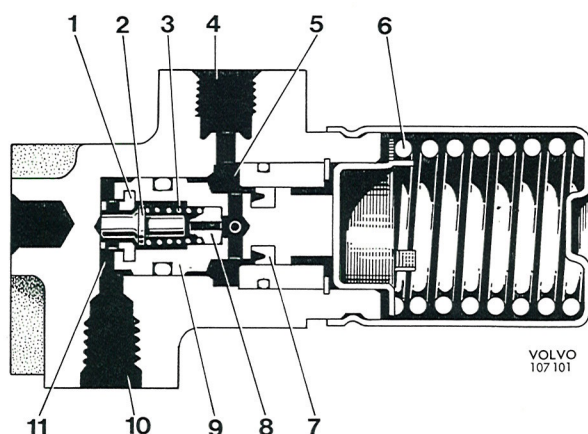
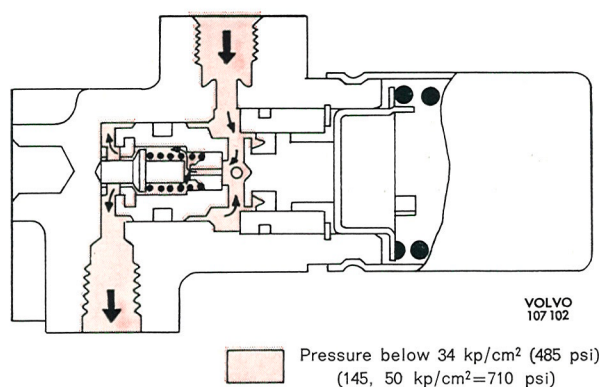

Fig. 5-40. Brake valve, construction
Fig. 5-41. Brake application
A brake valve is connected to each of the rear wheel brake lines, see Fig. 5-6. When the ingoing brake pressure exceeds $34 \text{ kp/cm}^2 = 485 \text{ psi}$ ($145, 50 \text{ kp/cm}^2 = 710 \text{ psi}$) a reduction takes place in the valve. The more powerful the pedal pressure, the greater the reduction and thereby the larger the difference between the hydraulic pressure in the front wheel and rear wheel cylinders. This results in a suitable distribution of braking force between both pairs of wheels. The construction of the brake valve is shown in Fig. 5-40 and its function is the following:
When the footbrakes are applied, the pressure from the master cylinder is transmitted via the connection (4, Fig. 5-40). The pressure then proceeds through the cylinder (5), the counterbore, past the valves (8) and (2) to cylinder (11) and then on through connection (10) to the rear wheel cylinders, see Fig. 5-41. The hydraulic pressure per unit surface is equal on the different parts of the piston (9), but since its pressure surface is larger in cylinder (11) than in cylinder (5), the force developed will move the piston to the right of the figure. However, this is counteracted by the pressure from the spring (6).
When the brake pedal is released, the pressure in the line (4) falls. The piston (9) is moved to the right by the spring (6). When the pressure on the right-hand side of the valve (2) falls so much that the hydraulic pressure on the left-hand side enables the valves to be actuated, the connection between both the cylinders is opened again. As the pressure falls, the spring (6) presses the left piston back to its original position where the valve is held in the open position by mechanical means, see Fig. 5-41. The equalizing valve (8) is provided with control channels which ensure an even flow of pressure through the valve.